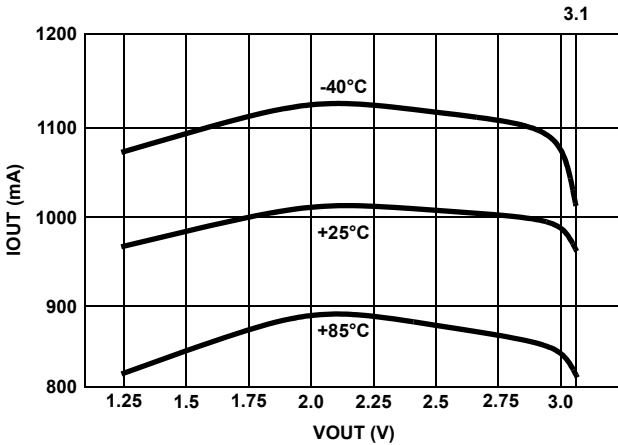
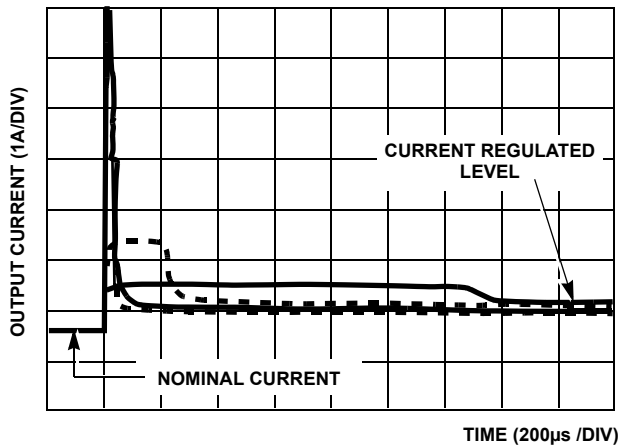
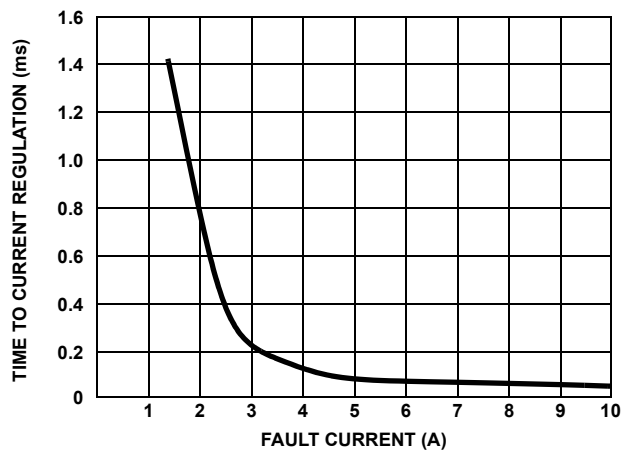

FIGURE 4. CURRENT REGULATION vs Vout (VIN = 3.3V)
FIGURE 6. OC TO CR SETTLING TIME WAVEFORMS
FIGURE 7. CR SETTLING TIME vs FAULT CURRENT
The ISL6119 has integrated current sensing on the power MOSFET that allows for rapid control of OC events. Once an OC is detected the ISL6119 goes into its current regulation (CR) control mode. The ISL6119 CR level is set to a nominal 1A. This current regulation is  $\pm 25\%$  over the full operating temperature and voltage bias range. See Figures 4 and 5 for illustrative curves. The speed of this control is inversely related to the magnitude of the OC fault. Thus a hard overcurrent is more quickly controlled than a marginal OC condition. See Figure 6 for waveforms illustrating this and Figure 7 for an accompanying graph.